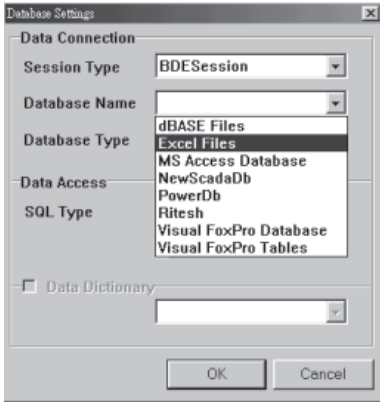

Fig. 8.3
1. Select Database Original: Click the page key **Data** and then select **<File>** **<Data Settings>**. Then carry out the selection as in Fig. 8.3.